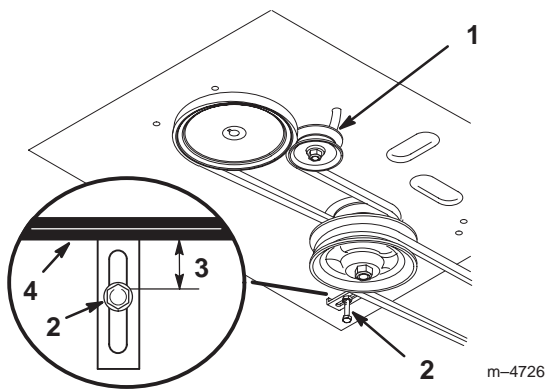

Figure 46
5. Install new belt around engine and drive pulleys (Fig. 46).
6. Slide idler pulley in engine frame to tension traction belt (Fig. 46).
8. Check the belt guide under the engine frame for proper adjustment (Fig. 46). The distance between the belt guide and mower belt should be 1-1/4 in (32 mm) when mower belt is engaged. Adjust as necessary. The disengaged belt should not drag or fall off pulley when guides are properly adjusted.
10. Check the belt guide under the engine frame for proper adjustment (Fig. 46). The distance between the belt guide and mower belt should be 1-1/4 in. (32 mm) when mower belt is engaged. Adjust as necessary. The disengaged belt should not drag or fall off pulley when guides are properly adjusted.